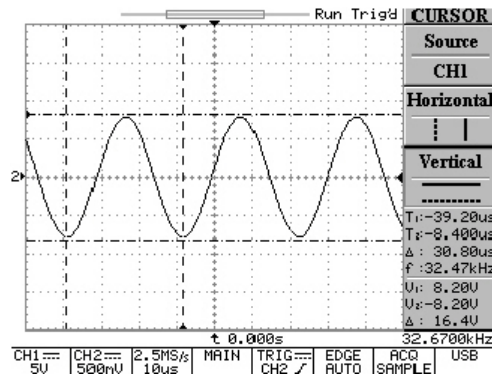

Figure 5-26: Vertical and horizontal cursor measurements
**CURSOR:** Select the different cursor measurements. Vertical cursors measure time; horizontal cursors measure voltage. For both vertical and horizontal cursors, the cursor readout T1 and T2 (V1 and V2) show the selected cursor position relative to the center horizontal (or vertical) LCD origin; the readout  $\Delta$  symbol indicates the distance (time or voltage) between of two cursors (see Figure 5-26).